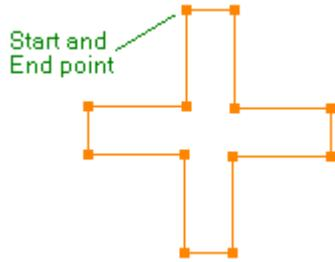

Figure 2. The borders of a plusmaze, drawn with a multi-line. The start and end vertices align perfectly, because they attract each other.
- ▷ **Multiline tool** Draws a multi-line. A multi-line is a series of connected lines. The first line starts where you click the left-hand mouse button, and ends where you release it. The next line starts where the first line ended, and ends where you click next - using this technique you can build up a series of any number of connected lines. To end a multi-line, double click the mouse. Multi-lines are very useful for drawing around apparatus such as a plusmaze. The *magnetic* vertices of a multi-line are the end points of each line. A multi-line's vertices will also attract each other, making it easy to *close* a multi-line object - see figure 2.
After you've drawn the border of the apparatus, you will probably want to divide it into different areas. For example, in a plusmaze you'll probably want to divide off the arms and possibly the ends of the arms too. Without this type of division, ANY-maze won't be able to report on activity in different parts of the apparatus; it will just treat the whole apparatus as a single area - see figure 2.
Figure 2. The apparatus map on the left doesn't include any internal divisions. ANY-maze will only be able to report on activity in the apparatus as a whole. The map on the right however, has the arms divided off. Now ANY-maze will be able to report on activity in the open and closed arms, as well as in the apparatus as a whole.